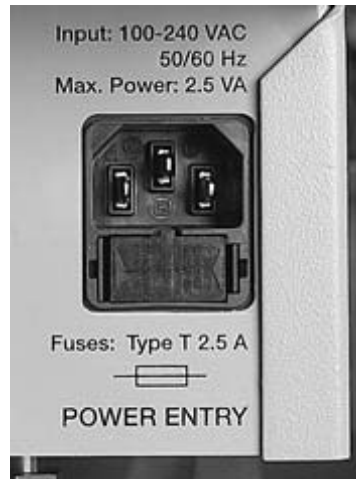

Figure 10-4. Spot cutter fuse
2. Squeeze the fuse door tabs and pull it open (see Figure 10-4).